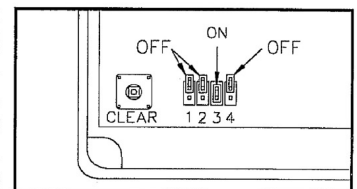

Fig. 1. CLEAR Button and Jumpers.
6. Connect the battery; a chirp will sound. (This will confirm that power is connected properly.) **Important:** Press the small CLEAR button at the lower-left corner of the circuit board (see Fig. 1).
8. Select jumper options (J1–J4) as follows. Refer to Fig. 1. The unit is factory supplied with the Annunciator option enabled (J3 installed) and 2-Minute Shutdown alarm selected (J4 removed).